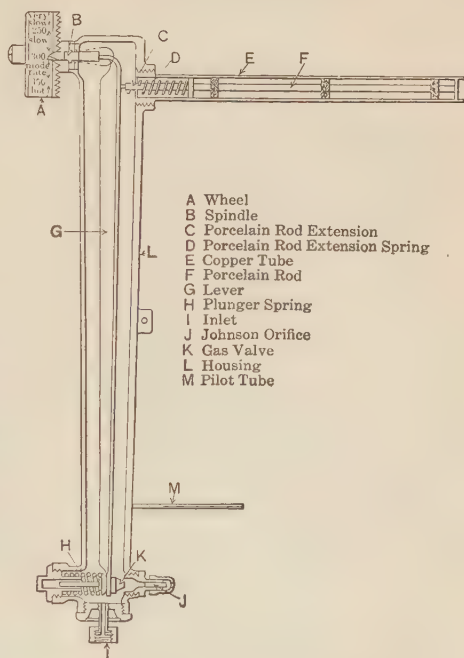

FIG. 76. — The Loraine oven heat regulator.
94. The Loraine oven heat regulator. The oven heat regulator is a device which automatically regulates the oven temperature. The operation of this useful device will be understood by reference to the diagram, Fig. 76. The